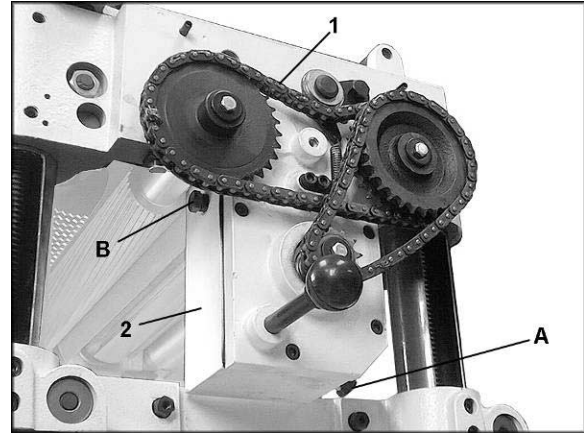

Figure 32
1. Remove the drain plug (A, Figure 32) with a 14mm wrench. Drain dirty oil thoroughly.
2. Insert and tighten the drain plug. (A, Figure 32).
3. Remove filler cap (B, Figure 32) and fill with clean lubricant through the hole. Fill until the oil reaches the top of the filler plug port for correct oil level.
4. Install and tighten filler cap (B, Figure 32).